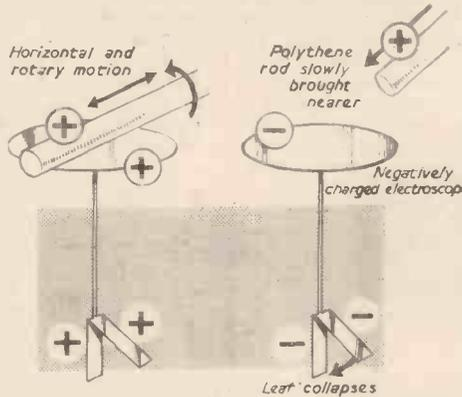

Fig. 12.—Giving a positive charge and checking it.
1. Refer to Fig. 12 and excite a polythene or ebonite rod.